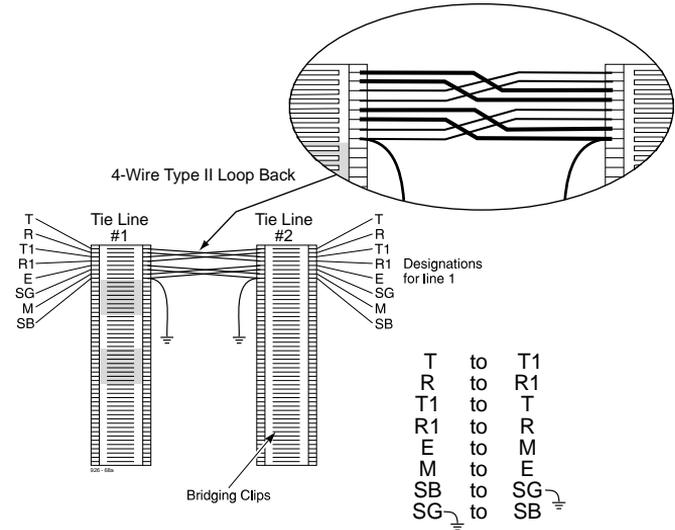

Figure 3-13 TIE LINE CONNECTIONS FOR LOOP BACK TESTING
Troubleshooting Tie Lines (Figures 3-13 and 3-14)
2. Punch down the tie lines as shown in Figure 3-13.